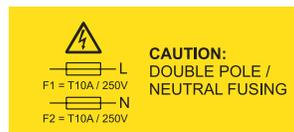

Figure 4. Fusing caution label
4. Verify that the fusing caution label is installed on the 2104 Model TS4 power supply. See Figure 4.